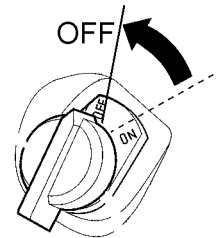

Figure 17. Engine ON/OFF Switch (OFF)
- Place the **engine ON/OFF** switch (Figure 17) in the **OFF** position.